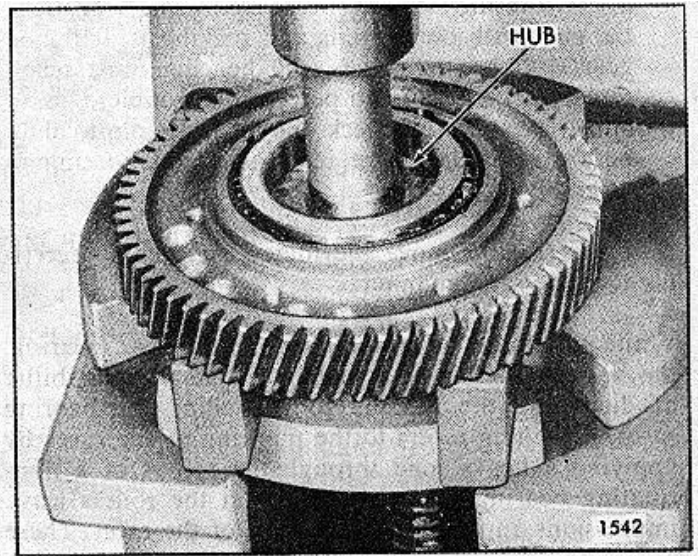

FIG. 3 Pressing Hub Out of Idler Gear Bearing
4. Place the idler gear assembly in an arbor press, with the inner bearing cone supported on steel blocks as shown in Fig. 3. While rotating the idler gear to prevent brinelling of the bearing, press the hub out of the bearing.